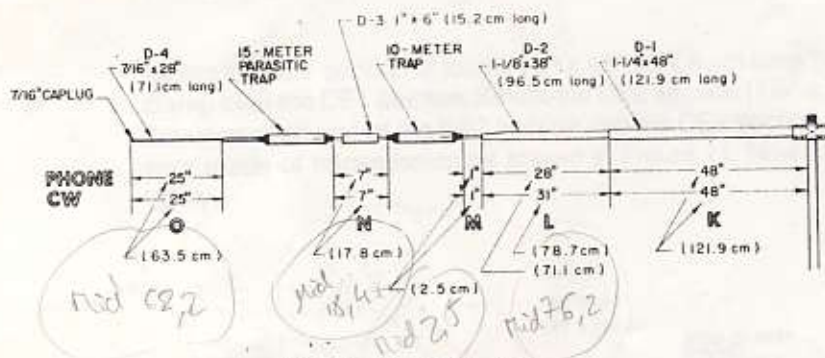

Figure 12. Director:
Select the D1 section of tubing (1 1/4" x 48", 121.9 cm long, item 4). Slip a 1 1/4" compression clamp over the D1 section. Select the D2 section (1 1/8" x 38", 96.5 cm long, item 9). Slip the unswaged end of D2 into the D1 section and measure dimension L for your mode of transmission as shown in Figure 12. Now tighten the compression clamp lightly.
Slip a 1" compression clamp over the swaged end of D1. Select the 10-meter trap (878749, item 16) and slip the shorted end (identified by the part number) into the D2 section. Measure dimension M for your mode of transmission as shown in Figure 12. Make certain the trap drain holes are facing downward, then tighten the compression clamp lightly.
Slip two 1" compression clamps over the D2 section (1" x 6", 15.2 cm long, item 12). Slip the D3 section over the 10-meter trap, then slip the shorted end of the 15-meter parasitic trap (878694, item 15), into the D3 section. Make certain the shorted end of the trap (identified by the part number) is inserted into the D3 section. Measure dimension N for your mode of transmission as shown in Figure 12, keeping D3 approximately equidistant from the two traps. Now tighten the compression clamps lightly.
Select the D4 section ($\frac{7}{16}$ " x 28", 71.1 cm long, item 11) and slip it into the swaged end of the 15-meter trap. Measure dimension O for your mode of transmission as shown in Figure 12 and then tighten the compression clamp lightly.